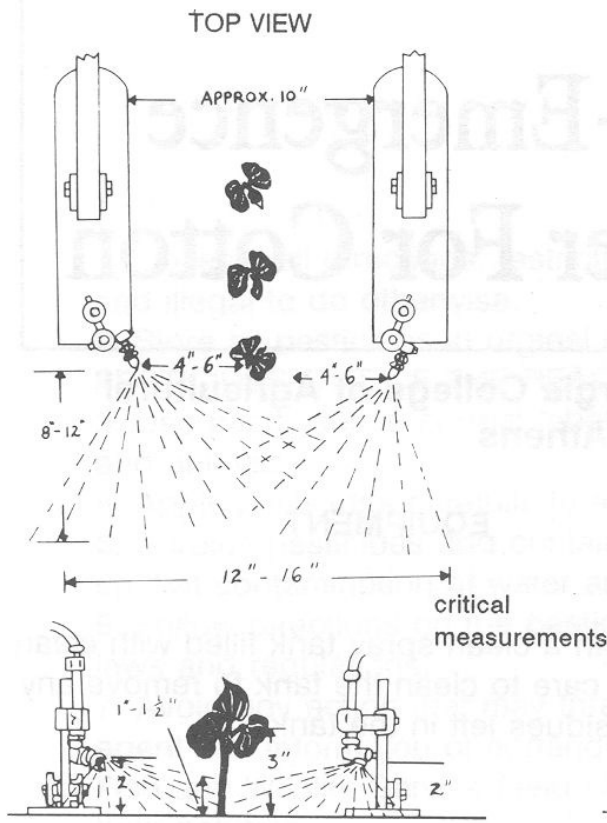

Figure 1
Adjust nozzles so the spray pattern of the two nozzles on each row: (1) contacts cotton 1 inch up the stem (up to 2 inches on larger cotton); (2) avoids, or at least minimizes, contact with cotton leaves; (3) overlaps a few inches on each side of the cotton drill*; (4) extends outward to cover the "shoulder" or the area just outside the spray fender; and (5) reaches the soil surface about 8 to 12 inches behind the nozzle. (See Figures 1 and 2.) Adjust each nozzle for fine-tuned, precise application.